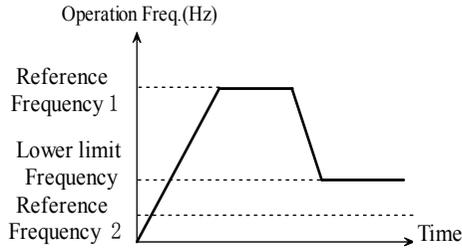

Figure. 5-2-3 Running at lower limit frequency
- ◆ Option 0: when the setting frequency is lower than lower limit frequency, the inverter will run at lower limit frequency instead of setting frequency. As shown in Figure. 5-2-3.